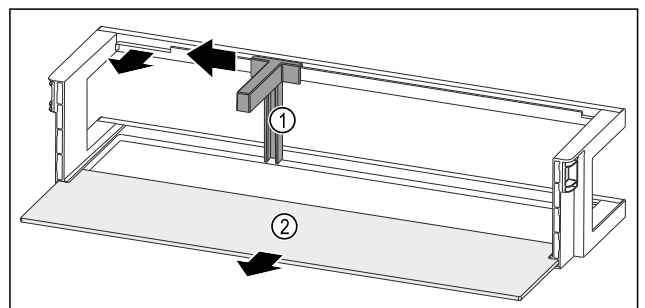

Fig. 203 Door rack with bottle holder and shelf
- Slide the bottle holder Fig. 203 (1) to the side as far as the recess.
- Remove the bottle holder Fig. 203 (1).
- Remove the shelf Fig. 203 (2).